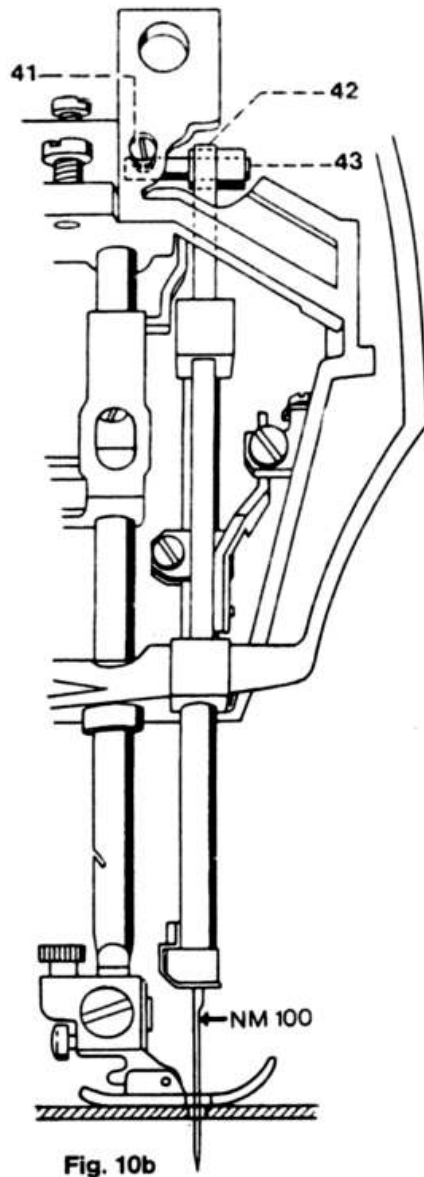

Fig. 10b
- Loosen screw 41 (fig. 10b).
- Move pin 43 together with collar and needle bar frame 42 to the front or the rear until the needle is exactly in the middle of the needle hole in the sewing foot (fig. 10b).